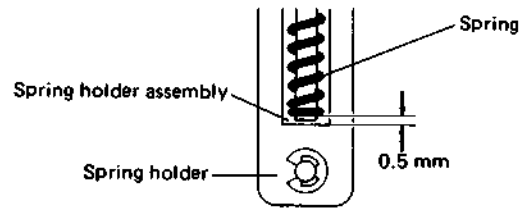

Fig. 4-24 Pinch roller solenoid adjustment
5. Adjust the solenoid mounting position for 0.5 mm space between the spring holder and spring as shown in Fig. 4-24. Then tighten the screws (A) firmly. This step adjusts pinch roller pressure.